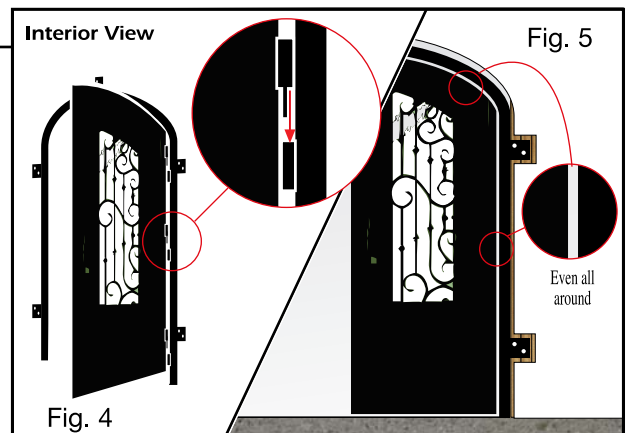

Fig. 4
1. Apply a small amount of grease onto each post/barrel hinge, then set the Door Panel Post onto Barrel end of hinge/s in the open position. Make sure to align the Post with the Barrel as you set it in place. (See Fig. 4)